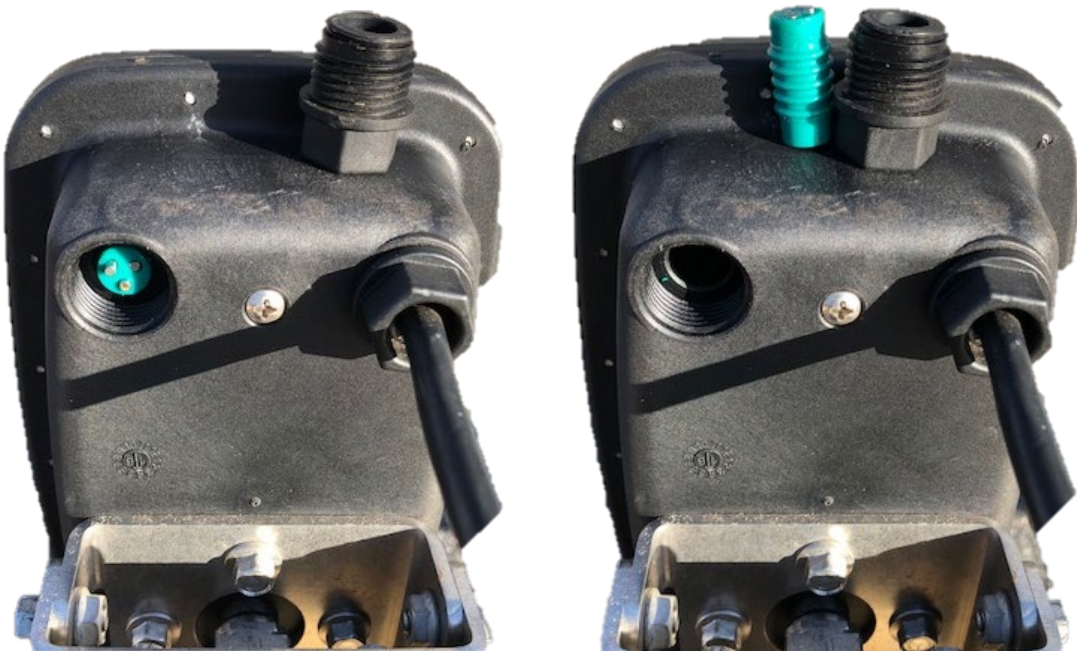

Figure 19. Access KZCO Valve Address Switch
- B. Using a 3/4-in wrench (or socket and ratchet), remove threaded cap (black plug) located next to control cable (wiring). See Figure 19.
- C. Remove green plug (unscrew plug, turns CCW). See Figure 19.
- E. Install green plug (screws in, turns CW). See Figure 19.
- F. Install threaded cap (black plug) See Figure 19.